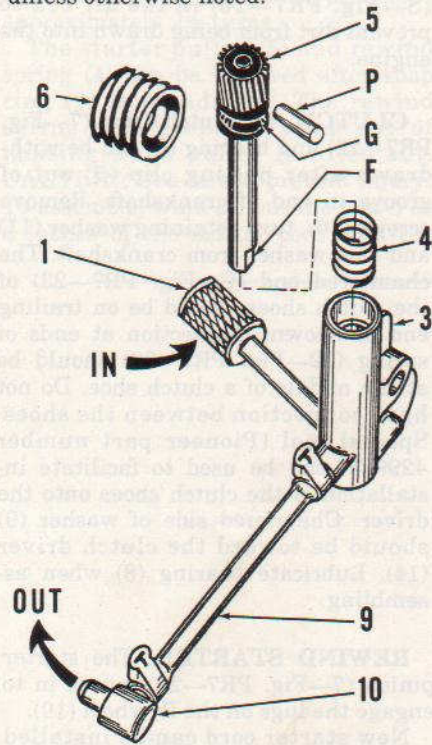

**Fig. PR7-19—The proper length of screws should be installed to prevent damage and to be sure that the crankcase does not leak.**
rear handle brace, carburetor, reed valve, ignition high tension coil, capacitor (condenser), flywheel, ignition charging and trigger assembly, exhaust manifold, cylinder, piston, saw chain, guide bar, clutch and the automatic chain oiler pump. Remove the screws attaching the crankcase halves together (Fig. PR7-19) and carefully separate the halves. Heat the crankcase halves before installing the crankshaft main bearings.
fuel tank pads, handle brace nut (N), crankshaft assembly (8) and gasket (9) should all be located correctly between the crankcase halves before attaching the halves together. The handle brace nut (N) can be held in place with the screw as shown until the crankcase halves are together. The nut is captive between the halves after they are together. Refer to Fig. PR7-19 for